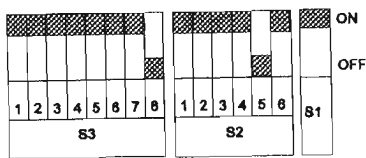

Figure 18
- Check the positions of all jumpers/switches of the camera given in Table 4 and in Figures 18, 19 and 20.